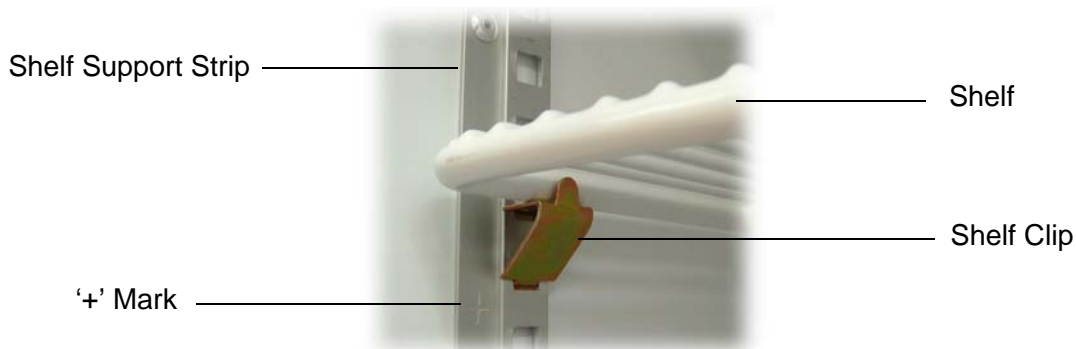

Figure 4: Shelf Clip
2. Establish the desired position for the shelves and securely engage a shelf clip in each of the shelf support strips (see Figure 4 below).